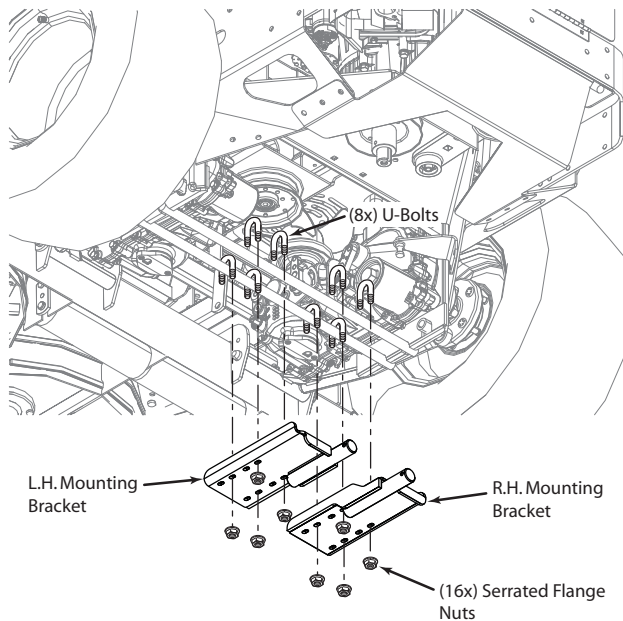

FIGURE 3-1
3. Attach the mounting brackets to the double cross bar between the hydraulic axle mounting plates using (8) u-bolts and (16) serrated flange nuts. See Figure 3-1. Do not tighten the hardware.